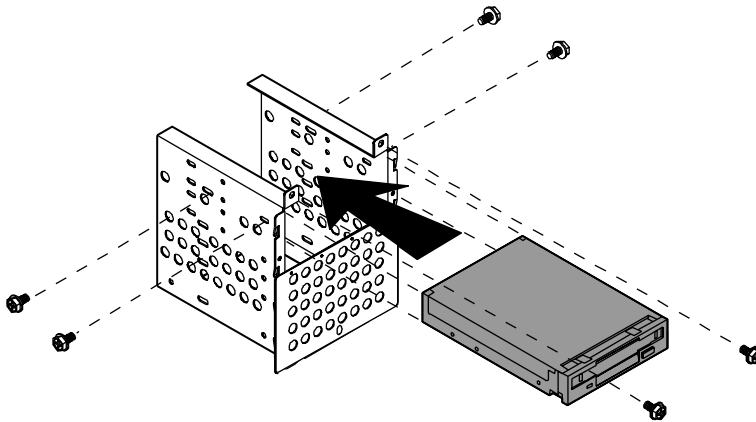

Figure 22: Installing the New 3.5-inch Drive
7. Place the new 3.5-inch drive in the mounting bracket (see Figure 22).